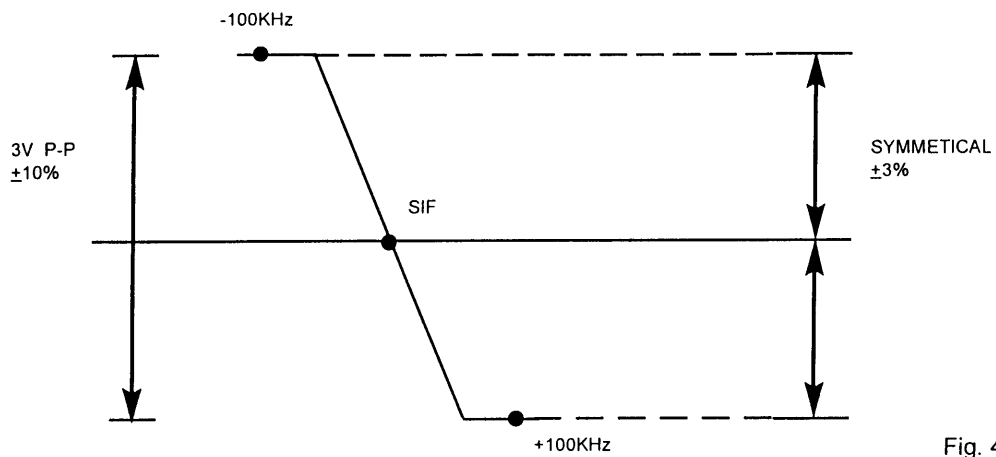

Fig. 4
7. Adjust T104 to obtain the waveform as Fig.4